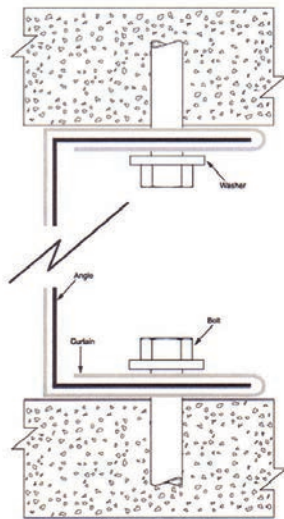

Figure 1
- Fold edge of curtain around a mild steel framing angle with dimensions of 50 mm x 50 mm x 20 mm (as shown in Figure 1).
- Secure the top perimeter framing angle, followed by fixing and side perimeter angles, as specified above. N.B. The curtain must cover three sides of the angle, as shown in Figure 1.